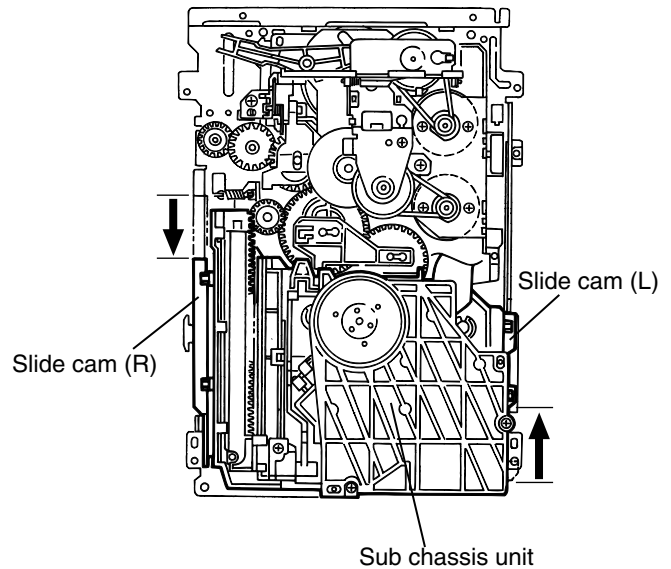

Fig.10
■ Removing the sub chassis unit (See Fig.10 to 12)
- Prior to performing the following procedures, remove the servo control board, the top cover, the tray unit, the side unit (L) and the side unit (R).
1. Turn the hook gear counterclockwise to move the slide hook and the slider (R) backward until they stop.
2. Slide the slide cam (L) and the slide cam (R) in the direction of the arrow until they stop.